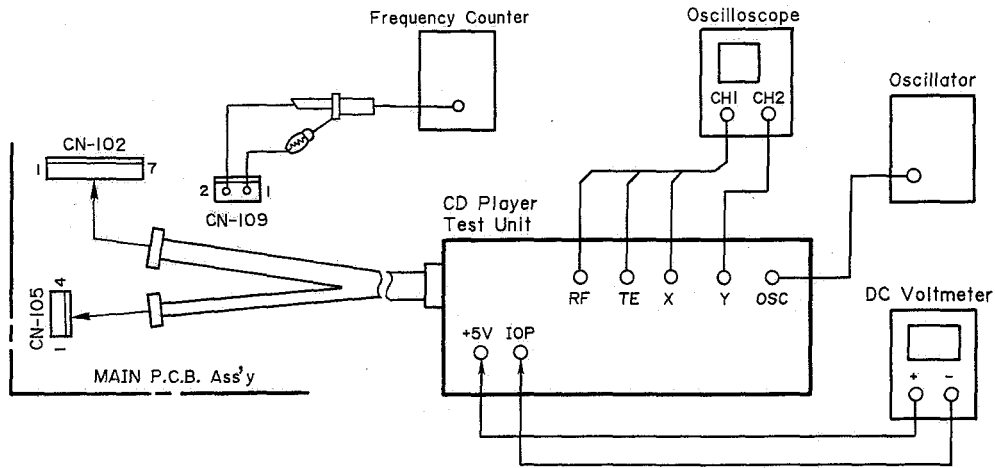

Fig. 4.2 Test Unit Connecting Diagram
| 1                                                                                    | Preliminary Step         |                       |                                                                                           |                      | <p>1. Connect the Test Unit to CN-102 and CN-105 on the Main P.C.B. Ass'y via the Test Unit Cable. (See Fig. 4.2.)</p> <p>2. For adjusting VRs on the RF Amp. P.C.B. Ass'y, remove the Mechanism Ass'y referring to item 2.6 and place it on the unit as shown left.</p> <p>Note: In the following cases, preset the following semi-fixed volumes to their mechanical center positions before starting adjustment.</p> <ul style="list-style-type: none"> <li>VR101, VR102 --- Main P.C.B. Ass'y</li> <li>VR201, VR202 --- RF Amp. P.C.B. Ass'y</li> </ul> <ul style="list-style-type: none"> <li>o When Main P.C.B. Ass'y or RF Amp. P.C.B. Ass'y is replaced with new one.</li> <li>o When VR101, VR102, VR201, or VR202 is replaced with new one.</li> </ul> |